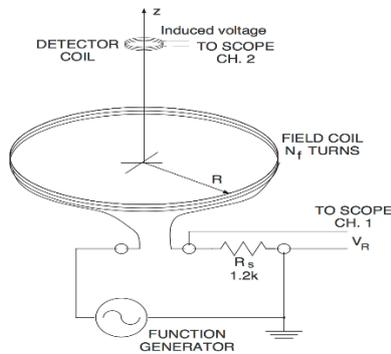

Figure 5
2. A  $1.20 \text{ k}\Omega$  resistor ( $R_S$ ) is in series with the coil, built in to the coil apparatus, as shown in Figure 5. By measuring the voltage drop,  $V_R$ , across this resistor, the current can be found from Ohm's law:  $I = V_R/R_S$ . Calculate the corresponding voltage drop  $V_R$  that is required to have a  $4.00 \mu\text{T}$  magnetic field.
B. Measuring the induced voltage. Connect the field coil, function generator and oscilloscope in the circuit shown in Figure 5. This is tricky to set up and you may need your lab instructor to help you. Set the function generator for a triangle wave with a frequency of  $f = 1/T = 500$  Hz. Using the oscilloscope to monitor the voltage drop across  $V_R$ , adjust the function generator